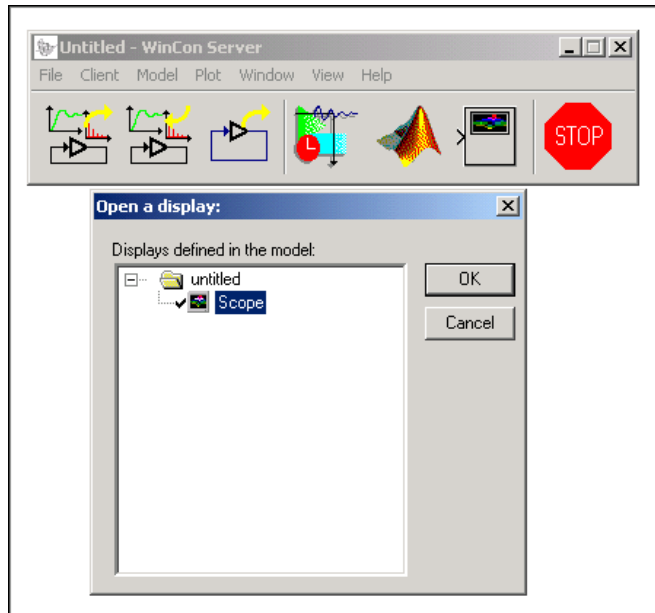

Figure 10 Opening a WinCon Scope
Step 19. Click on the *Open Plot* button in the WinCon Server toolbar. This opens up a selection window, as shown in Figure 10, from where you can choose the model display that you wish to open for real-time visualization. and selecting the variables you want to plot. As depicted in Figure 10, select Scope and press OK. This opens a WinCon Scope, i.e. a real-time plot.